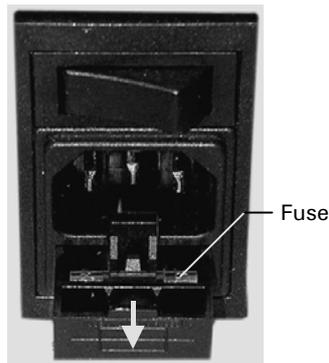

FIGURE 6-7. The Fuse Compartment
- a) Pull out the fuse holder (item 1, FIGURE 6-7).